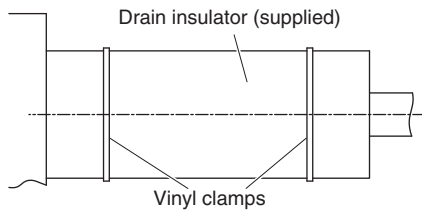

Fig. 3-25
- After checking the drainage, wrap the supplied packing and drain pipe insulator around the pipe, then secure it with the supplied clamps. (Fig. 3-25)